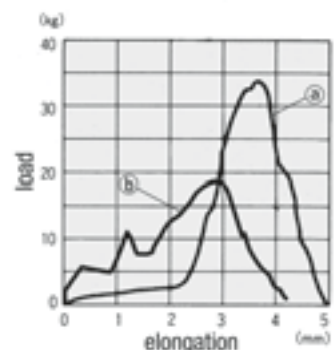

Fig. 2 (a) Cable Pull Test for BCP-C3B+3C-2V
- Use of crimping to attach the connectors ensures quick, reliable installation. <Fig. 2>